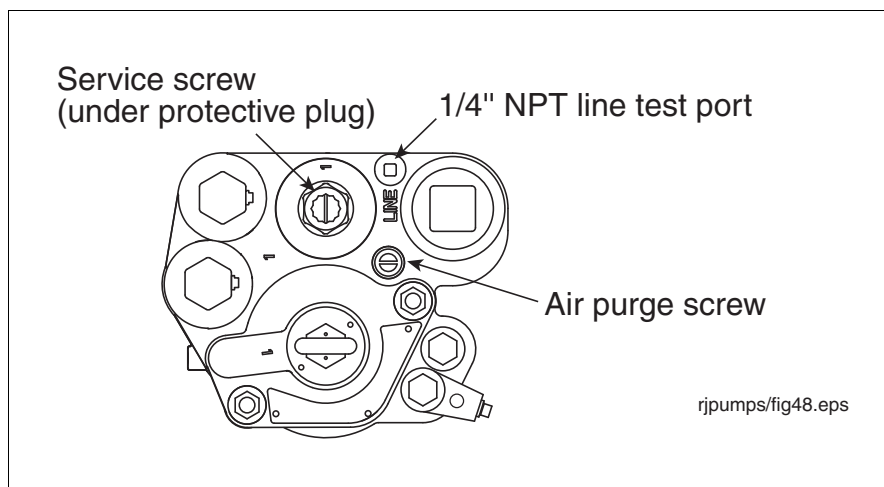

Figure 37. Locating Pump Line Test Port
- Pressure may be observed using a gauge attached at the impact valve or to the pump's line test port (see Figure 37).
2. Remove and save the protective plug over the service screw and turn the screw clockwise (see Figure 37). As the screw approaches its bottom position, you will hear the system depressurizing. Continue turning the screw until it can go no further. When the screw is all the way down, backoff the screw 4 turns to lift the check valve and let the fuel drain out of the manifold's hydraulic cavities. Continue to turn the screw all the way counterclockwise. When the screw is almost up, the check valve will drop down into position.
3. Remove the line test port plug (see Figure 37) and attach test gauge.
4. Open the air purge screw 2 - 3 turns counterclockwise (see Figure 37).
2. Remove and retain the protective plug over the service screw and turn the screw clockwise (see Figure 37). As the screw approaches its bottom position, you will hear the system depressurizing. Continue turning the screw until it can go no further.